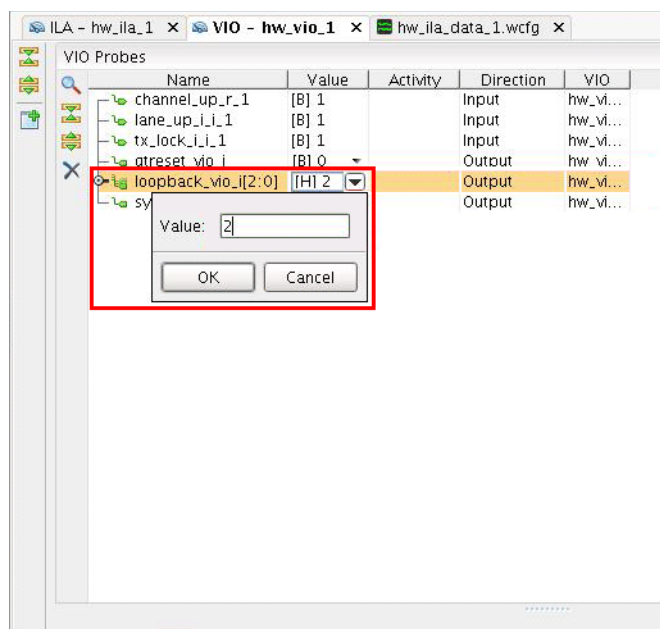

Figure 34: Configure PMA Loopback Mode
5. On the `hw_vio_1` tab, click the down arrow on the list box next to the `loopback_vio_i[2:0]` signal (Figure 34).